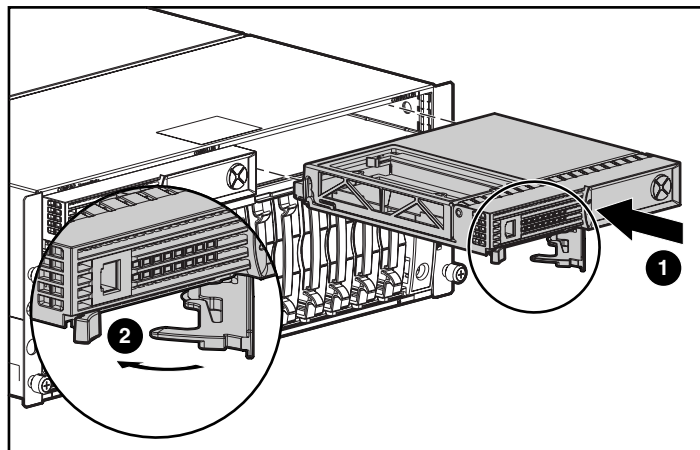

Figure 8: Installing the controller in an MSA1000
7. Push the controller in as far as it will go ❶; press the latch inward until it is flush against the front panel ❷. See Figure 8.